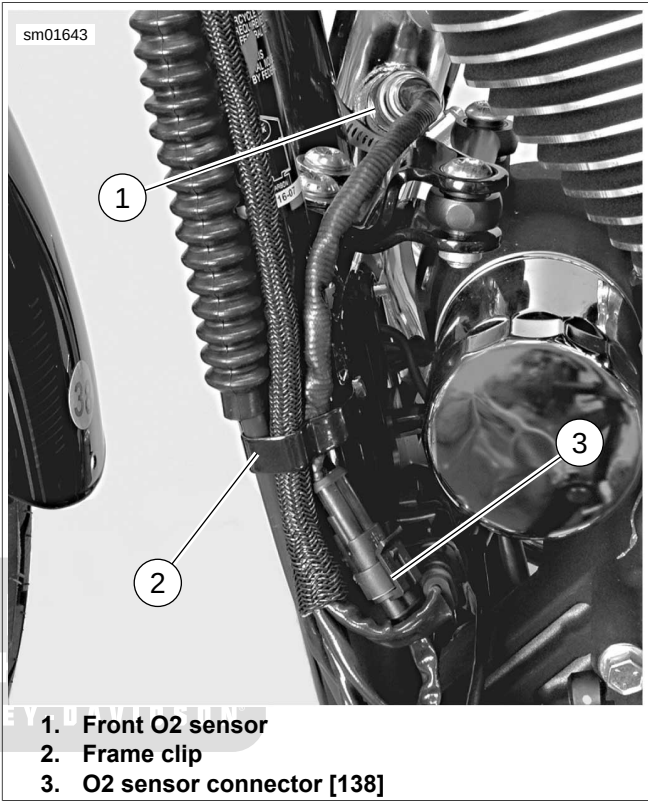
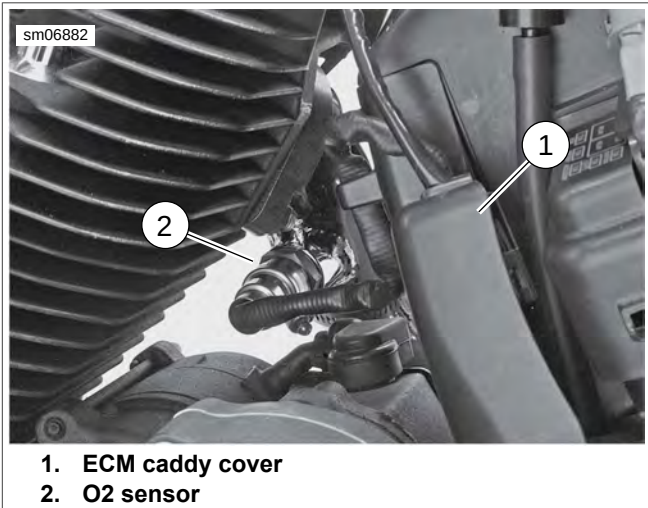

Figure 4-63. Front O2 Sensor and Connector (XL shown)
Figure 4-64. Rear Oxygen Sensor: XL Models
- All Models:** See Figure 4-63. Disconnect the front O2 sensor connector:
- Remove the frame clip (2).
- Disconnect the sensor pin connector [138A] housing (3) from the socket connector [138B] housing.
- XL Models:** See Figure 4-64. Disconnect the rear O2 sensor connector:
- Remove the rear O2 sensor connector [137] (2) from the ECM caddy (1).